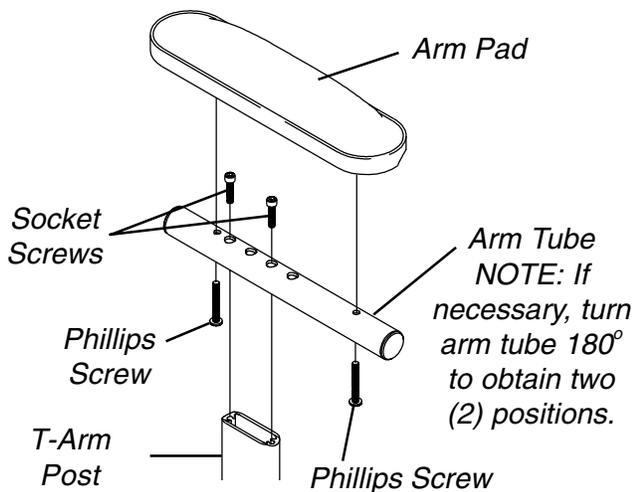

FIGURE 5 - ADJUSTING THE T-ARM DEPTH
**Adjusting T-Arm Depth (FIGURE 5)**
1. Remove the two (2) phillips screws that secure the arm pad to the arm tube.
2. Remove the two (2) socket screws that secure the arm tube to the T-arm post.
- A. **Desk Length Arms** - to one (1) of three (3) positions depending on the desired arm pad depth.
- B. **Full Length Arms** - to one (1) of five (5) positions depending on the desired arm pad depth.
4. Re-secure the arm tube to the T-arm post with the two (2) socket screws.
5. Reattach the arm pad to the arm tube with the two (2) phillips screws.